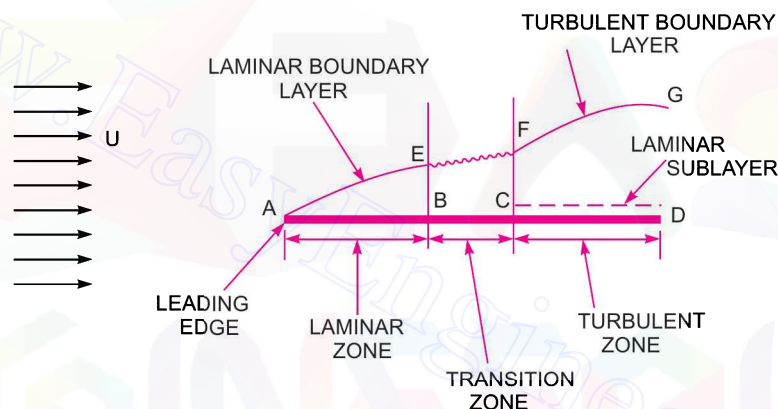

Fig. 13.2 Flow over a plate.
**13.2.1 Laminar Boundary Layer.** For defining the boundary layer (*i.e.*, laminar boundary layer or turbulent boundary layer) consider the flow of a fluid, having free-stream velocity ( $U$ ), over a smooth thin plate which is flat and placed parallel to the direction for free stream of fluid as shown in Fig. 13.2. Let us consider the flow with zero pressure gradient on one side of the plate, which is stationary.
The velocity of fluid on the surface of the plate should be equal to the velocity of the plate. But plate is stationary and hence velocity of fluid on the surface of the plate is zero. But at a distance away from the plate, the fluid is having certain velocity. Thus a velocity gradient is set up in the fluid near the surface of the plate. This velocity gradient develops shear resistance, which retards the fluid. Thus the fluid with a uniform free stream velocity ( $U$ ) is retarded in the vicinity of the solid surface of the plate and the boundary layer region begins at the sharp leading edge. At subsequent points downstream the leading edge, the boundary layer region increases because the retarded fluid is further retarded. This is also referred as the growth of boundary layer. Near the leading edge of the surface of the plate, where the thickness is small, the flow in the boundary layer is laminar though the main flow is turbulent. This layer of the fluid is said to be laminar boundary layer. This is shown by  $AE$  in Fig. 13.2. The length of the plate from the leading edge, upto which laminar boundary layer exists, is called laminar zone. This is shown by distance  $AB$ . The distance of  $B$  from leading edge is obtained from Reynold number equal to  $5 \times 10^5$  for a plate. Because upto this Reynold number the boundary layer is laminar. The Reynold number is given by  $(R_e)_x = \frac{U \times x}{\nu}$
**13.2.2 Turbulent Boundary Layer.** If the length of the plate is more than the distance  $x$ , calculated from equation (13.1), the thickness of boundary layer will go on increasing in the downstream direction. Then the laminar boundary layer becomes unstable and motion of fluid within it, is disturbed and irregular which leads to a transition from laminar to turbulent boundary layer. This short length over which the boundary layer flow changes from laminar to turbulent is called transition zone. This is shown by distance  $BC$  in Fig. 13.2. Further downstream the transition zone, the boundary layer is turbulent and continues to grow in thickness. This layer of boundary is called turbulent boundary layer, which is shown by the portion  $FG$  in Fig. 13.2.
**13.2.3 Laminar Sub-layer.** This is the region in the turbulent boundary layer zone, adjacent to the solid surface of the plate as shown in Fig. 13.2. In this zone, the velocity variation is influenced only by viscous effects. Though the velocity distribution would be a parabolic curve in the laminar sub-layer zone, but in view of the very small thickness we can reasonably assume that velocity variation is linear and so the velocity gradient can be considered constant. Therefore, the shear stress in the laminar sub-layer would be constant and equal to the boundary shear stress  $\tau_0$ . Thus the shear stress in the sub-layer is